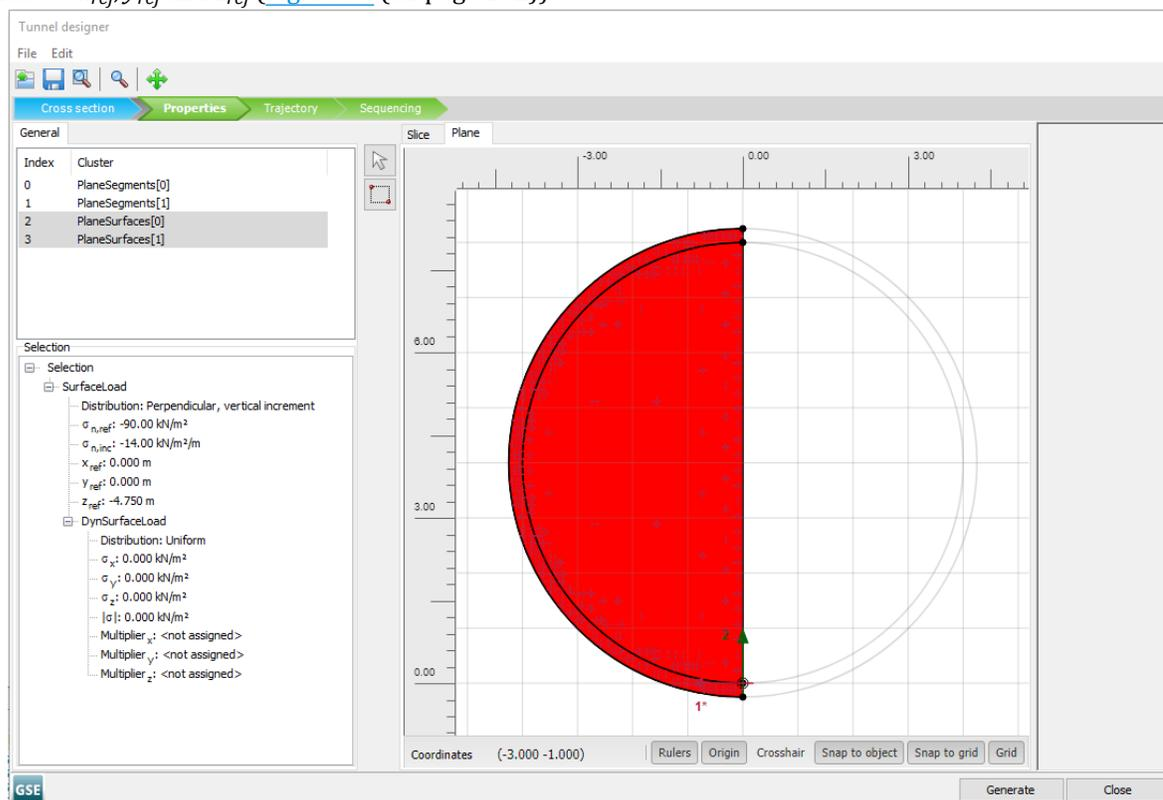

Figure 75: Plane tabsheet in the *Tunnel designer*
4. Set the $\sigma_{n,ref}$ to -90 and $\sigma_{n,inc}$ to -14 and define (0 0 -4.75) as the reference point for the load by assigning the values to x_{ref} , y_{ref} and z_{ref} (Figure 75 (on page 102))